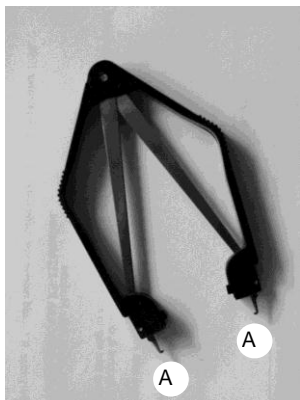

Fig. 2.7.2: PLCC pliers
4. The μ -Controller is removed by means of PLCC pliers, fig. 2.7.2. Apply the pliers in such a way that those parts of the pliers that are marked with an A correspond with the socket (see fig. 2.7.2 and 2.7.3). When inserting the new μ -Controller ensure that the slanted edge of the μ -Controller corresponds with the one of the socket.